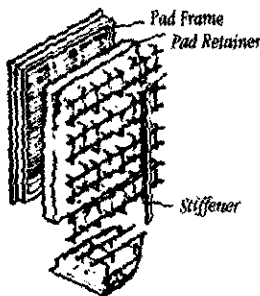

FIGURE 17
2. Remove pad frame stiffener from frame, using caution as stiffener can spring back. Carefully remove all pad from retainers. Remove and discard pads (see Figure 17).